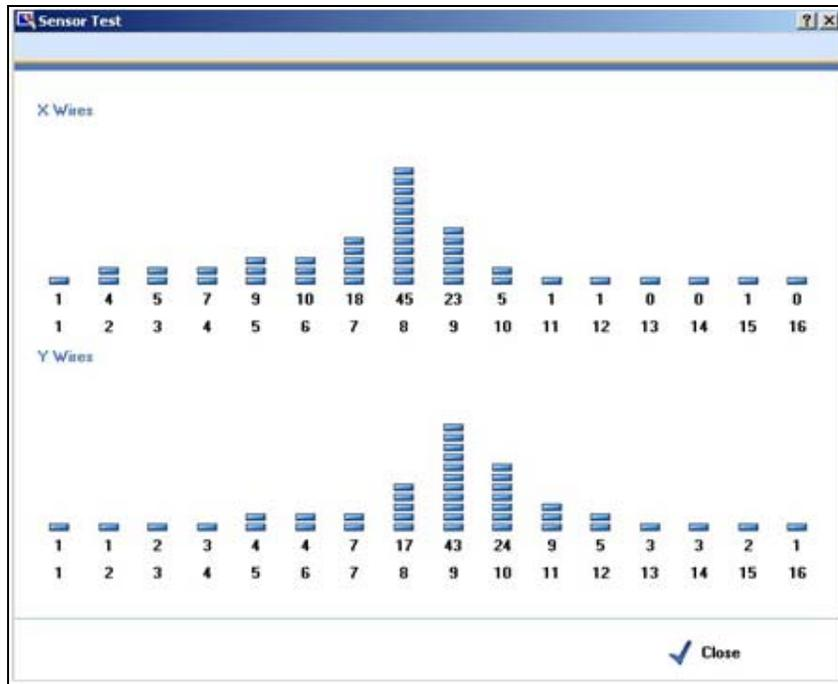

Figure 26: *Sensor Test Page with wire level peaks as a result on an applied touch*
- Launching the **Test Sensor** page displays the x and y sensor wire array matrix levels. Applying a touch to the sensor will register a response in the x and y wires levels. This graph can be used to determine the correct operation of all the wires within the sensor. This can be done by applying a touch to the sensor and moving your finger left to right then top to bottom over the sensor. All wires should register a peak relative to your finger movement across the sensor, as shown in Figure 26. **Please note:** touch operation is disabled when the **Test Sensor** page is open. The **Test Sensor** page can be terminated by using the **Escape** key via a connected keyboard or using a mouse to press the **Close** button located in the bottom right hand corner of the page.